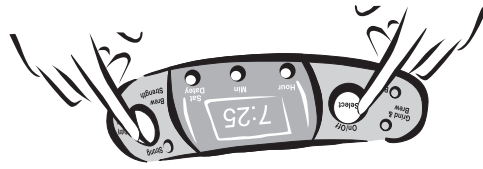

Figure 6
3. Press the DELAY BREW button until it is flashing. Press the SELECT button once until the GRIND & BREW light turns on and the DELAY BREW light remains on but stops flashing. The coffeemaker is now set to automatically grind and brew coffee at the pre-set time. See Figure 6. You may select the brew strength at this time.